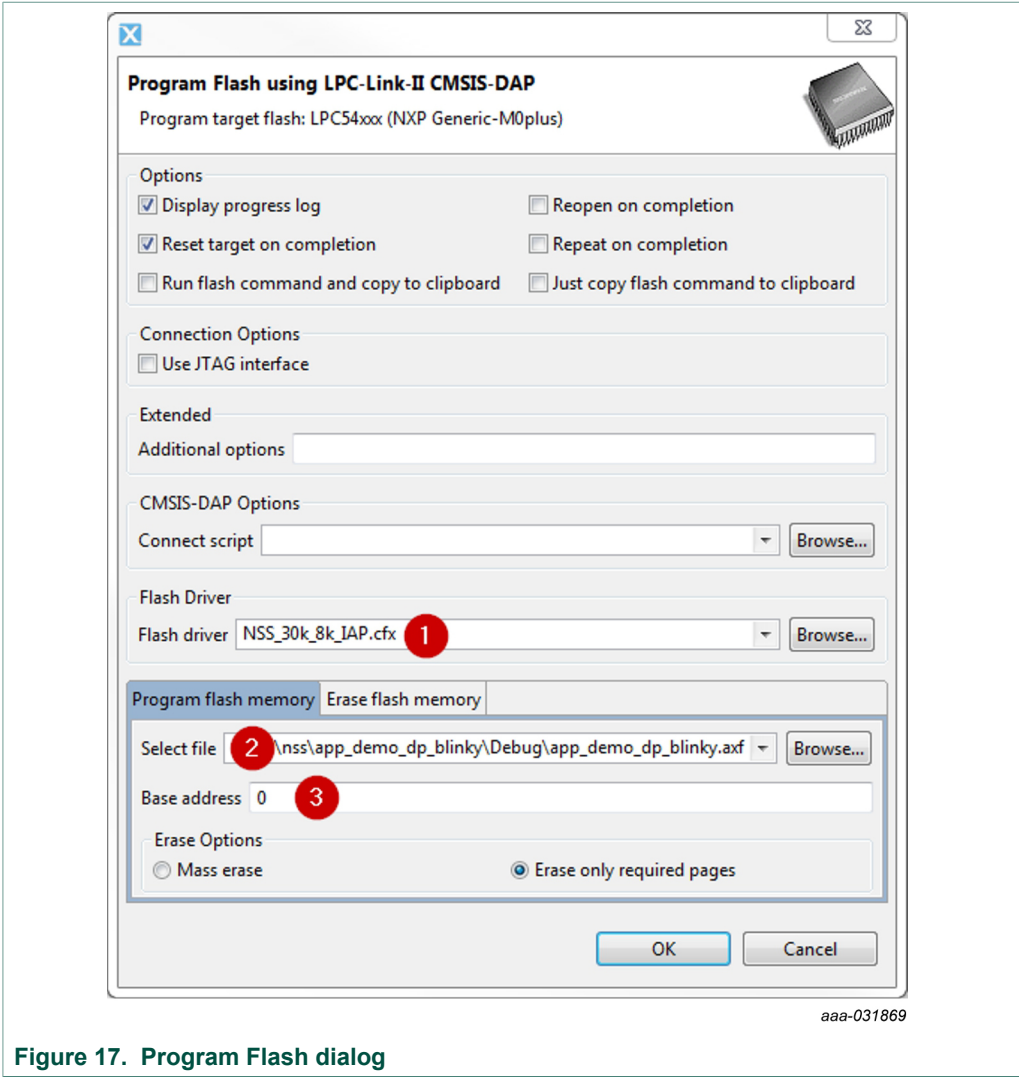

Figure 17. Program Flash dialog
4. In the dialog that pops up, verify these settings (see Figure 17).